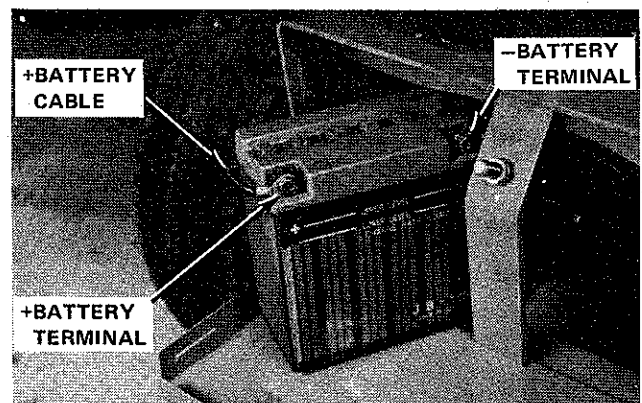

Figure 6-15. Battery Cables and Terminals
2. Slide battery from support and remove battery cables from terminals. (Figure 6-15.)